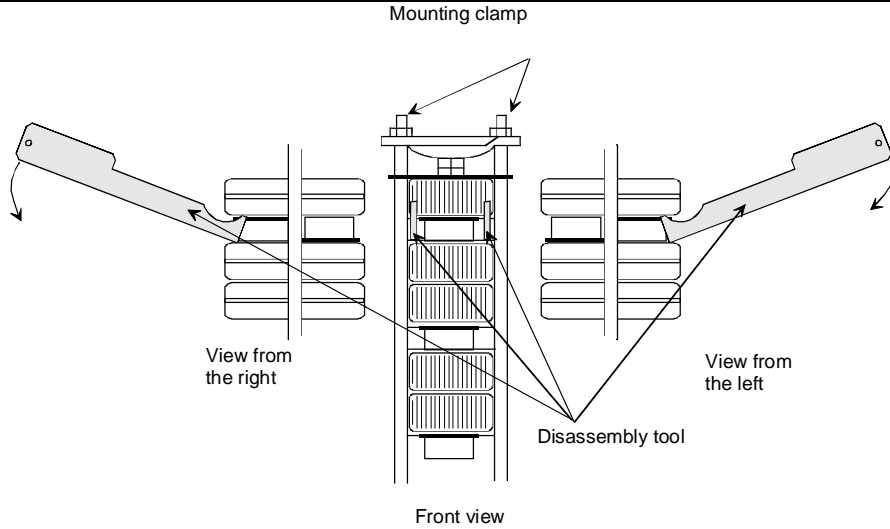

Figure 8 How to use the disassembly tool
5. Attach the disassembly tool at the faulty thyristor and prize open the upper and lower heat sinks (see figure 8).